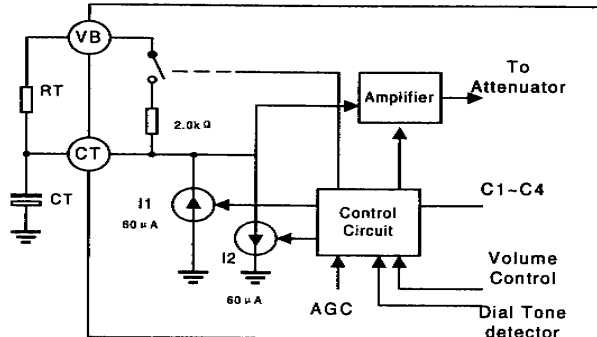

Fig. 5. CT Attenuator control block circuit
4. The circuit will switch to the slow idle mode when: (A) both talkers are quiet(no speech present) or (B) when one talker's speech level is continuously over-ride by noise at the other speaker's location. The time required to switch the circuit between transmit, receive, fast idle, and slow idle is determined in part by the components at the CT pin(pin14), (see the section on switching timers for a more complete explanation of the switching time components A schematic of the CT circuitry is shown in Figure 5, and operates as follows: